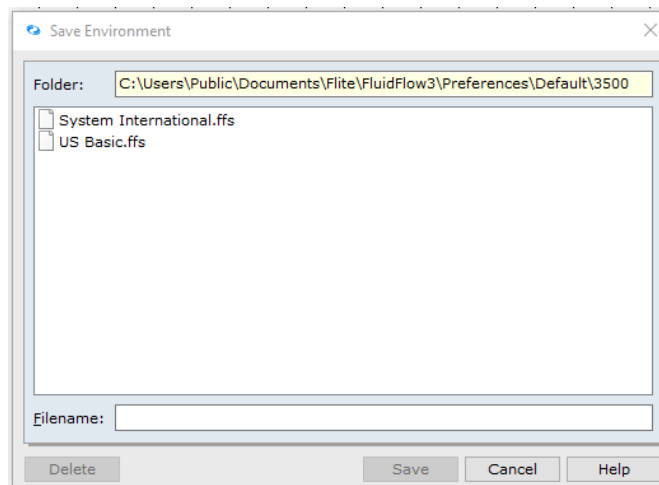

Figure 26: Save Environment Dialogue Box.
25. The Save Environment dialogue box will appear (Figure 26).